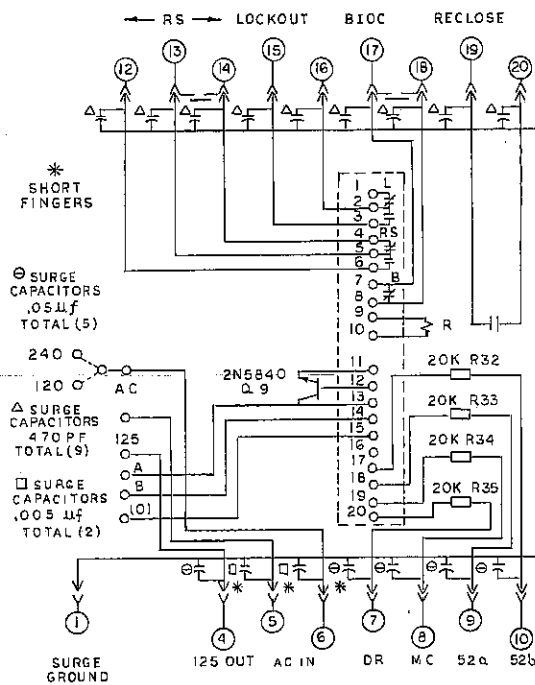

Fig. 6B (0285A5823-0) Internal Connections for 12SLR11B
- Fig. 6B Internal Connections for 12SLR11B